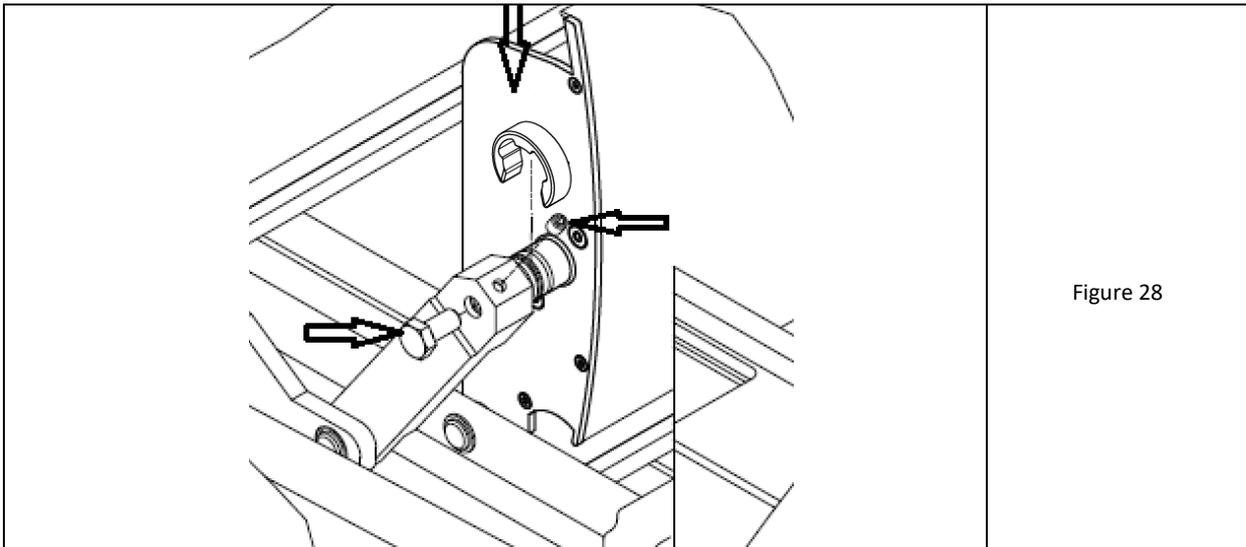

Figure 28
13. Position the tongue vertically and tighten the safety devices: - from the side of the arm into the shaft axis - M8x16 hexagonal screw. Tighten leaving clearance (fig. 28).
17. Fully tighten the hexagon socket screws in the shaft axis of both feathers (tightening torque 17 Nm) and, at the upper ends of the arms, screw the M6x8 grub screws with Allen socket into the threaded hole (tightening torque 7 Nm)-fig.28